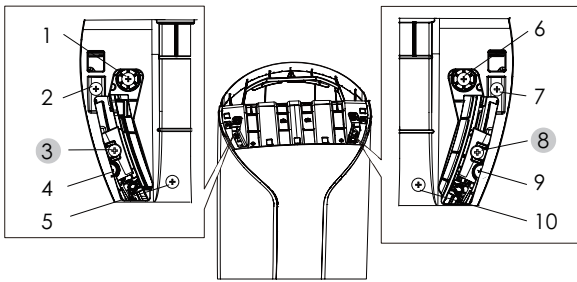

Fig.9
(1)When the side plate is closed, loose #3 and #8 screws in the screw holes at both sides.(As show in Fig.9)